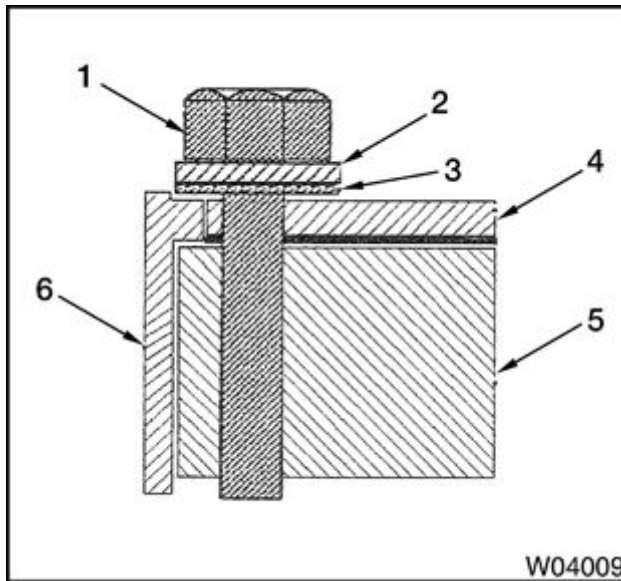

Figure 770 Sleeve projection components
4. Secure cylinder sleeve into crankcase with six bolts, six hard washers, and six soft washers as shown in (Figure 770). Tighten hold-down bolts to special torque (page 497).